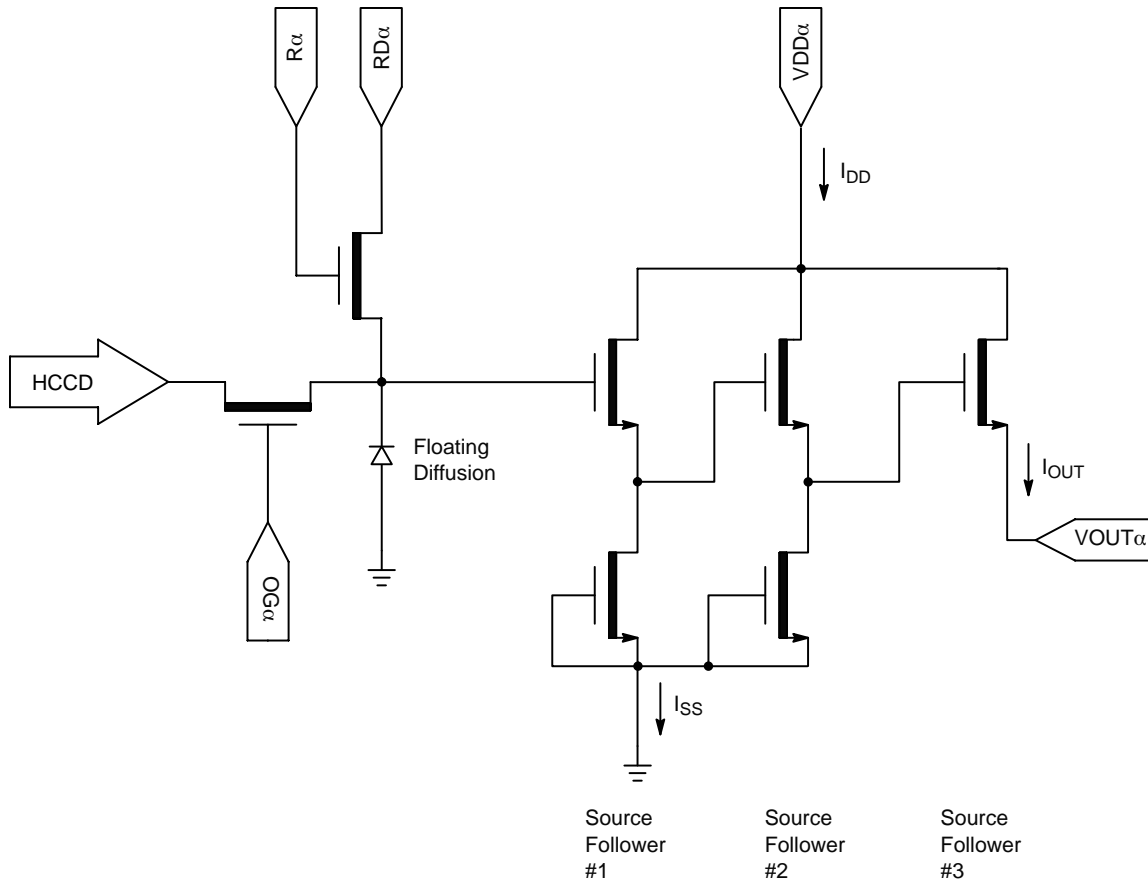

Figure 21. Output Amplifier
2. The maximum DC current is for one output. $I_{DD} = I_{OUT} + I_{SS}$. See Figure 21.